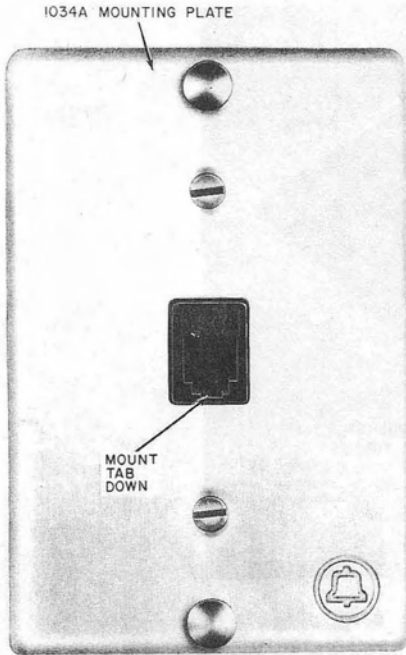
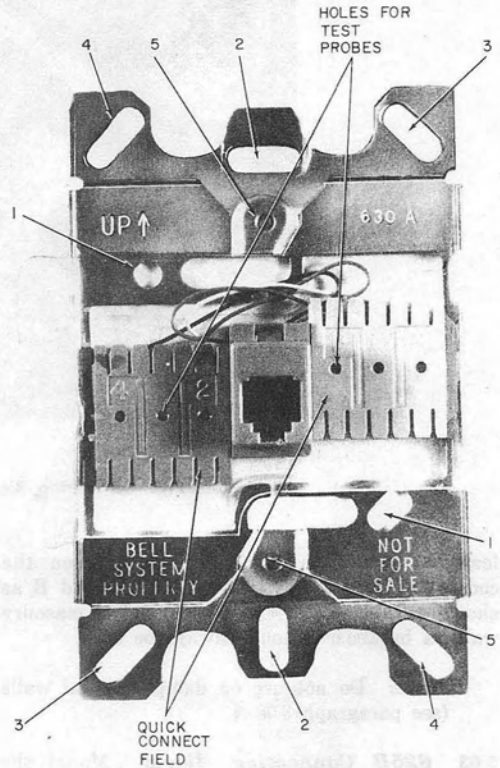

Fig. 7—630A4 Connecting Block (With Mounting Plate)
Fig. 8—630A4 Connecting Block (Current Model Without Mounting Plate)
- Block, Connecting, 630A4 (Fig. 7, 8, and 9)
2.11 The **630A4** connecting block (Fig. 7) is a plug-in wall set mounting and will also accept a modular type mounting cord. It consists of a connecting block (Fig. 8) and 1034A mounting plate. Two 3/16-inch 800413577 (P-41357) cover mounting screws, two 5/16-inch 840705008, and two 1-1/8 inch 841065529 flathead machine screws are included in a fastener package. The 630A4 connecting block is now available as a replacement for the 630A6 and should be ordered accordingly.
3.11 **630A4 Connecting Block:** This block (Fig. 7) may be flush mounted on a 63-type bracket or electrical type outlet box or surface mounted on a wall. In all cases, the block should
lie flat against the wall with connector springs oriented to the top and tab to the bottom (Fig. 7).
(a) A fastener package is provided with the 630A4 connecting block consisting of two 3/16-inch 800413577 (P-41357) cover mounting screws, two 5/16-inch 840705008, and two 1-1/8 inch 841065529 flathead machine screws. Depending on mounting arrangement, select proper fasteners from Table B and mount connecting block using holes designated in Fig. 8. The connecting block should be straight before tightening screws.
4.01 The 630A4 may be used with exposed or concealed station wire. Each quick-connect terminal (total of four) provides three station wire terminations per lead. One termination is required for the jack conductor. An access for a test point is also provided (Fig. 8).
(4) Attach mounting plate (Fig. 7) using the two 3/16-inch 800413577 (P-41357) cover mounting screws or two 5/16-inch 840705008 flathead machine screws from the fastener package.
(5) Remove the protective mylar cover from the stainless steel plate.
(6) Check for continuity on each lead by inserting #934A tool or #523A4 plug and connecting test set.